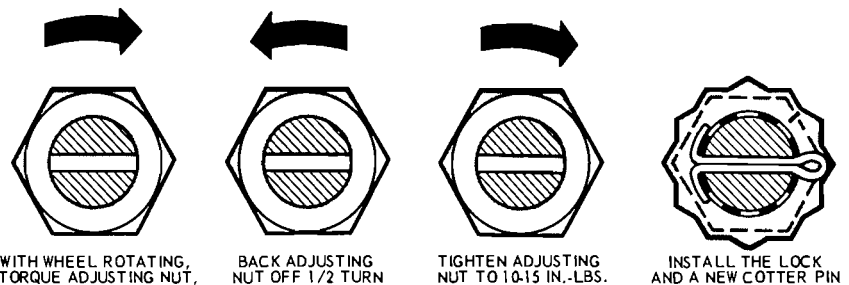

FIG. 1 Front Wheel Bearing Adjustment
spindle by the adjusting nut, nut lock and cotter pin (Figs. 1 and 2, Group 11, Part 02).
4. While rotating the wheel, hub, and drum assembly, torque the adjusting nut to 17-25 ft-lbs to seat the bearings (Fig. 1).
- While rotating the wheel, hub, and rotor assembly, torque the adjusting nut to 17-25 ft-lbs to seat the bearings (Fig. 1).